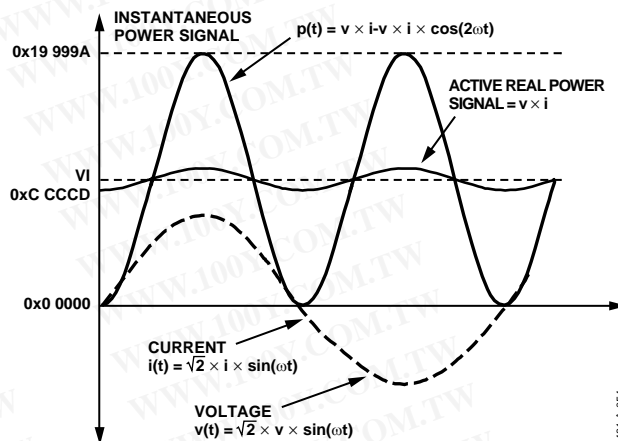

Figure 53. Active Power Calculation
the relationship used to calculate active power in the ADE7763. The instantaneous power signal $p(t)$ is generated by multiplying the current and voltage signals. The dc component of the instantaneous power signal is then extracted by LPF2 (low-pass filter) to obtain the active power information. This process is illustrated in Figure 53.
As mentioned in the last section, the discrete time sample period (T) for the accumulation register is $1.1 \mu\text{s}$ ($4/\text{CLKIN}$). With full-scale sinusoidal signals on the analog inputs and the WGAIN register set to $0x000$, the average word value from each LPF2 is $0xC\text{CCCD}$ —see Figure 53. The maximum positive value that can be stored in the internal 49-bit register before it overflows is 2^{48} , or $0xFFFF\text{FFFF}\text{FFFF}$. The integration time under these conditions with $\text{WDIV} = 0$ is calculated as follows: